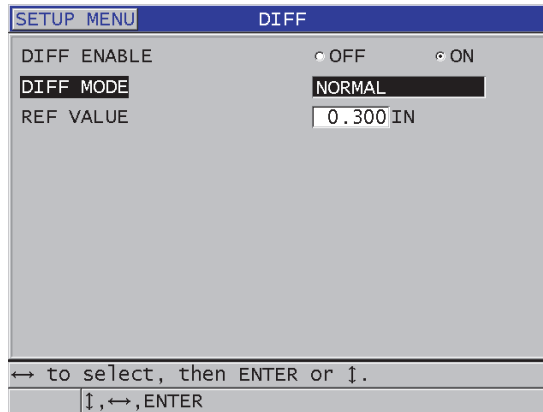

Figure 8-2 The DIFF screen
3. In the **DIFF** screen (see Figure 8-2 on page 133):